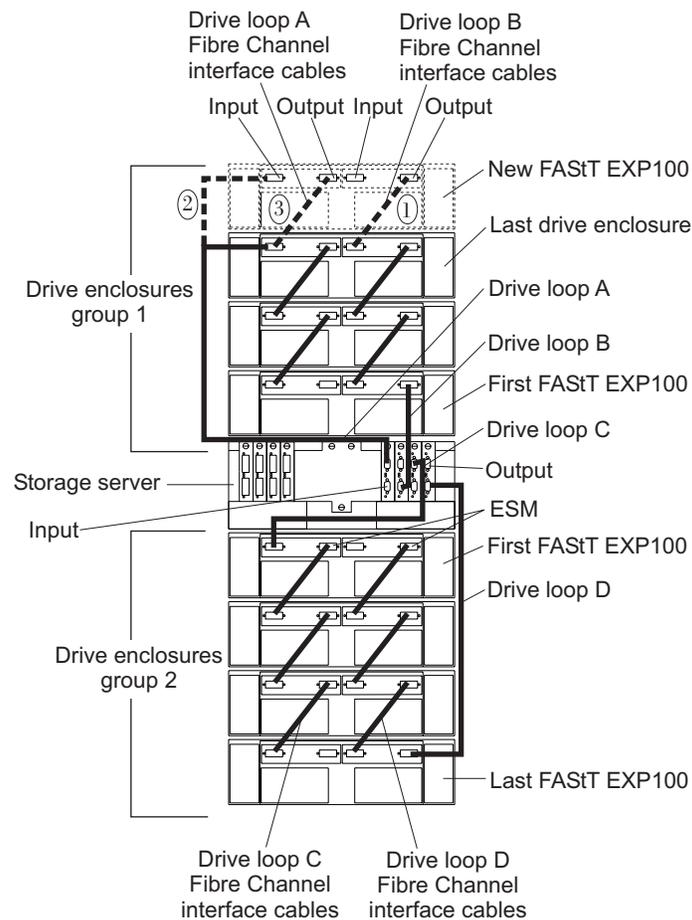

Figure 37. Cabling the FAStT EXP100 to two redundant loops
+ Figure 37 shows an example of a FAStT900 Storage Server configured with four
+ The dashed lines in Figure 37 show how to add a new FAStT EXP100 to an
+ new FAStT EXP100 shown in Figure 37, perform the following steps:
- + 2. Make the fibre-channel connection marked 1 in Figure 37 on page 61 (drive loop B). Then power on the new FAStT EXP100 and verify that it is recognized by the Storage Manager software GUI.
- + 3. Make the fibre-channel connection marked 2 in Figure 37 on page 61.
- + 4. Make the fibre-channel connection marked 3 in Figure 37 on page 61 (drive loop A).